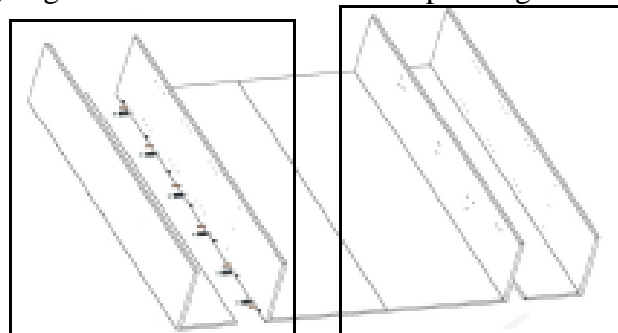

Fig. 12a
Step 12. Take the parts assembled in **steps 9 and 11.** Connect them to each other as shown in **Figures 12a, 12b, 12c** by aligning the fasteners with the corresponding holes.